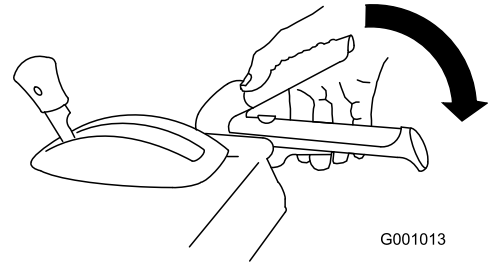

Figure 28
1. To engage the auger/impeller drive, squeeze the right (auger/impeller) lever to the handgrip (Figure 28).